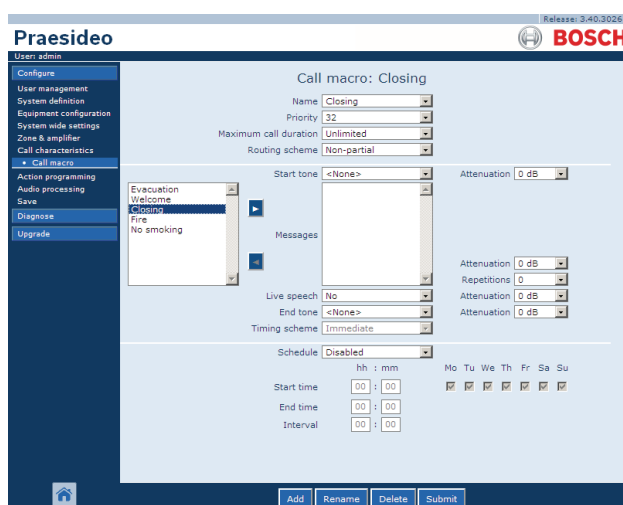

figure 47.5: Add call macro, step 4
- 4 Click the *OK* button to add the call macro to the list of call macros in the system. A screen similar to the one in figure 47.5 appears in the main frame of the web interface.